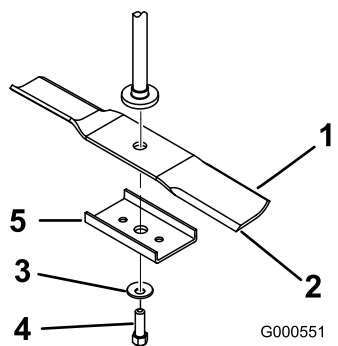

Figure 50
2. Remove the blade bolt, the curved washer, the blade stiffener, and the blade from the spindle shaft (Figure 50).
1. Install the blade onto the spindle shaft (Figure 50).
2. Install the blade stiffener, the curved washer (cupped side toward the blade), and the blade bolt (Figure 50).